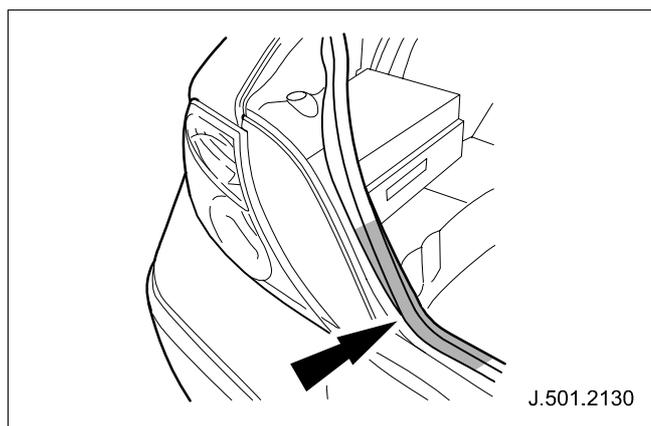

Fig. 24
- 3 Luggage compartment seal. (See Fig. 24)